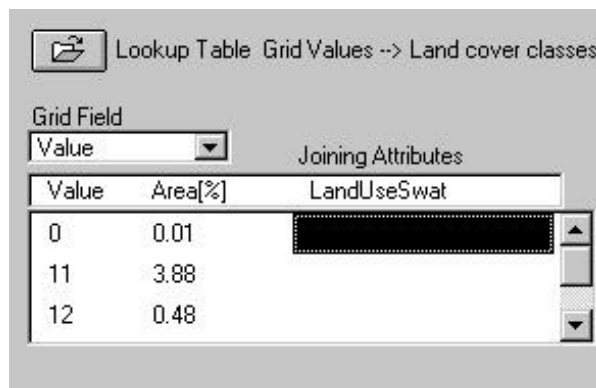

Figure 6.15
2. SWAT land cover/plant descriptions are assigned to land use theme categories using the *Landuse Reclass Section* of the dialog box (Figure 6.15).